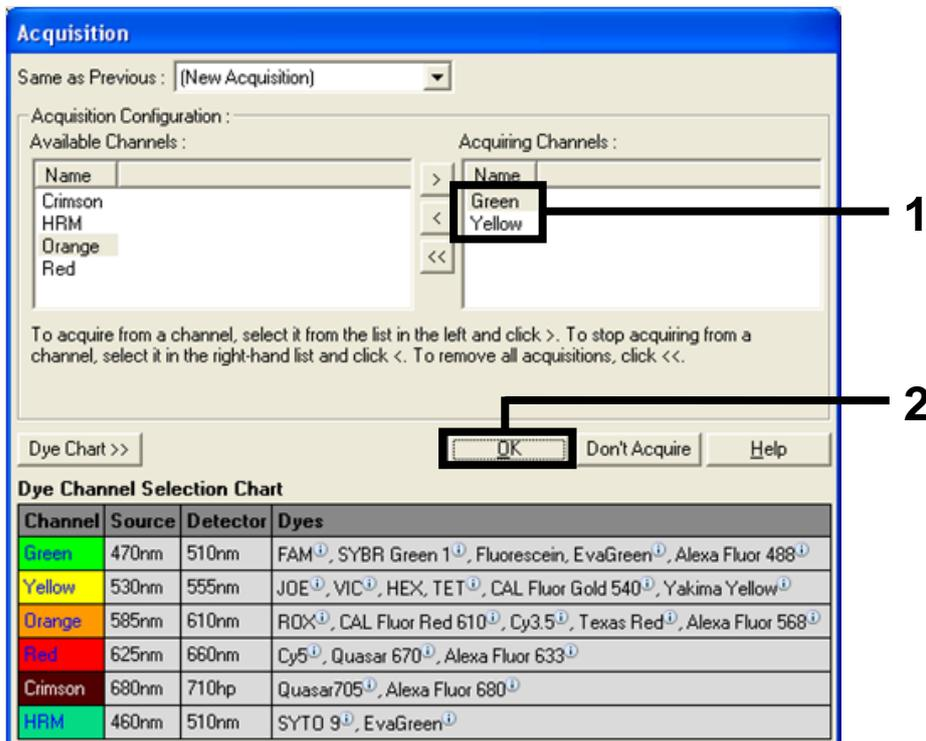

Figure 27. Acquiring at cycling step of 60°C (1 = Selected channels; 2 = “OK” button).
- Set Green and Yellow as acquiring channels by selecting the “>” button to transfer these channels from the “Available Channels” list. Click “OK” (Figure 27).